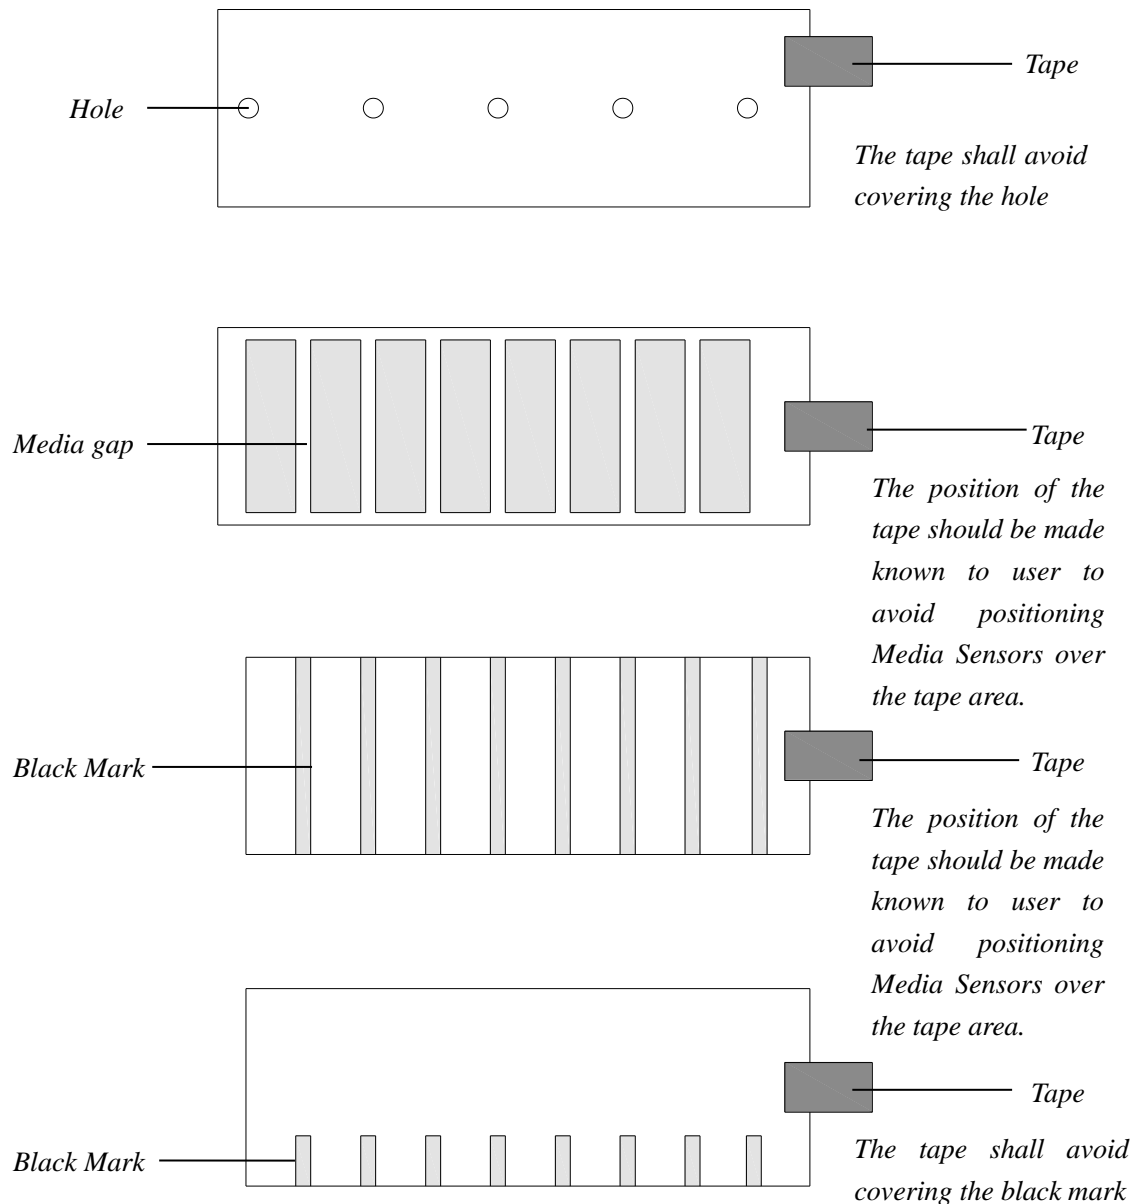

Figure 2-44 End-fixing Tape Position
- When roll media is produced, the media end would be fixed on the media core with duct tape or scotch tape. If your printer cannot detect the Media Out signal well, please refer to Figure 2-44 to check the position of the tape.